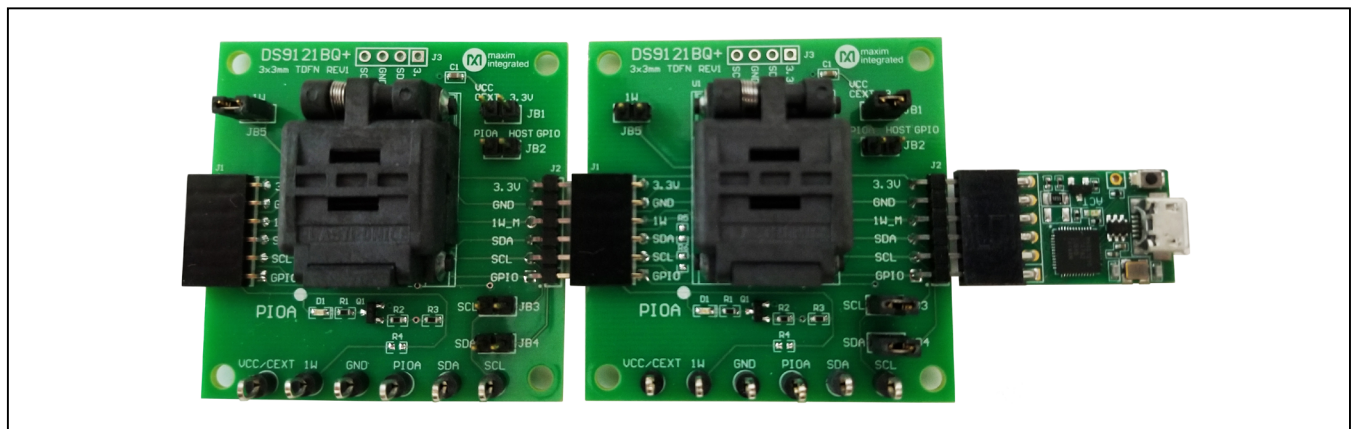

Figure 2. Board Connectivity
- 8) Insert a DS2485 IC into one of the DS9121BQ boards and connect it to the DS9481P-300 as shown in Figure 2.
- 9) Insert a DS28E07 IC into the remaining DS9121BQ board and connect it to J1 of the DS2485's DS9121BQ board as shown in Figure 2.